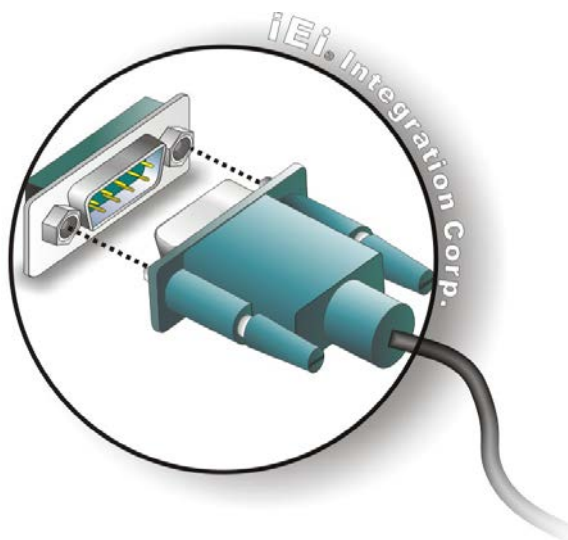

Figure 3-17: Serial Device Connector
**Step 2:** **Insert the serial connector.** Insert the DB-9 connector of a serial device into the DB-9 connector on the external peripheral interface. See **Figure 3-17**.